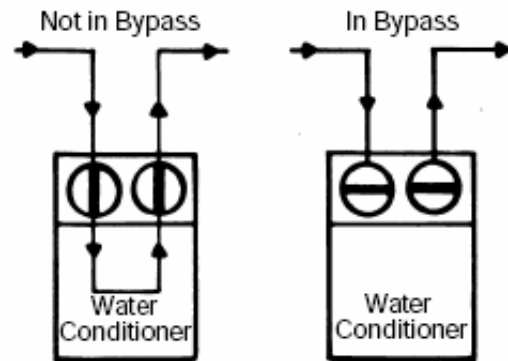
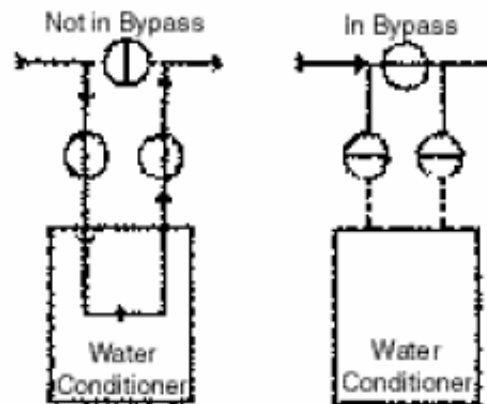

Figure 3 – Autotrol Series 256 Bypass Valve
Figure 4 – Typical Globe Valve Bypass System
- The most common bypass systems are the Autotrol® Series 256 bypass valve (Figure3) and plumbed-in globe valves (Figure4). Though both are similar in function, the 256 Autotrol bypass offers simplicity and ease of operation.